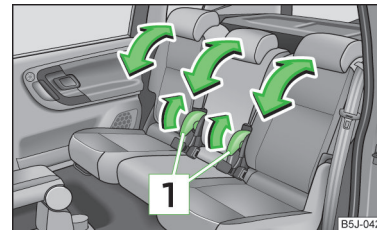

Fig. 57
- › Pull the lever **1** » Fig. 57 and adjust the required inclination of the seat backrest.
- Pull lever **1** » Fig. 57 on page 70 and fold the seat backrest completely forwards.